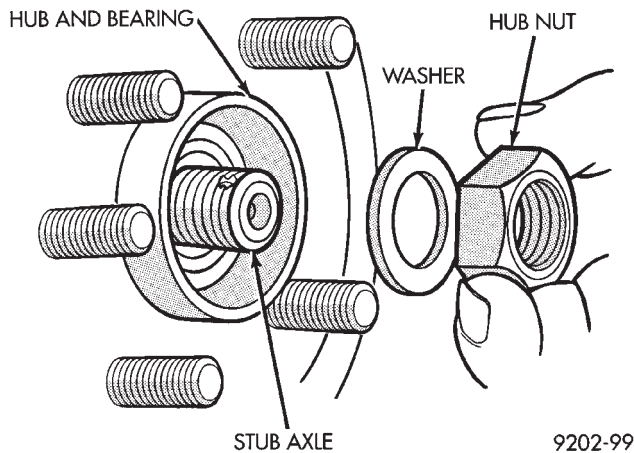

Fig. 22 Install Washer and Hub Nut
(13) Clean all foreign matter from the threads of the outer C/V joint stub axle. Install hub nut onto threads of stub axle and tighten nut. (Fig. 22).